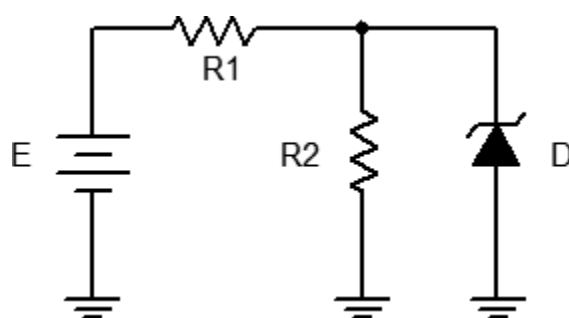

Figure 2
4. Consider the circuit of Figure 2 using  $R1 = 2.2\text{ k}\Omega$  and  $R2 = 4.7\text{ k}\Omega$ . In general, to analyze circuits like this, first assume that the Zener is out of the circuit and then compute the voltage across  $R2$  using the voltage divider rule. If the resulting voltage is less than the Zener potential then the Zener is inactive (high resistance) and does not affect the circuit. If, on the other hand, the resulting voltage is greater than the Zener potential then the Zener is active and will limit the voltage across  $R2$  to  $V_Z$ . Via KVL, the remainder of the voltage drops across  $R1$  and from this the supply current may be determined. This current will then split between  $R2$  and the Zener. The  $R2$  current is found using Ohm's law. The Zener current is then found via KCL. Note that for higher and higher values of  $E$ , the voltage across (and therefore the current through)  $R2$  does not change. Instead, all of the "excess" current from the source passes through the Zener.
5. Build the circuit of Figure 2 using  $R1 = 2.2\text{ k}\Omega$  and  $R2 = 4.7\text{ k}\Omega$ . Set  $E$  to 2 volts. Compute the theoretical diode voltage and current, and record them in the first row of Table 2. Then measure the diode current and voltage and record in Table 2. Finally, compute and record the deviations.